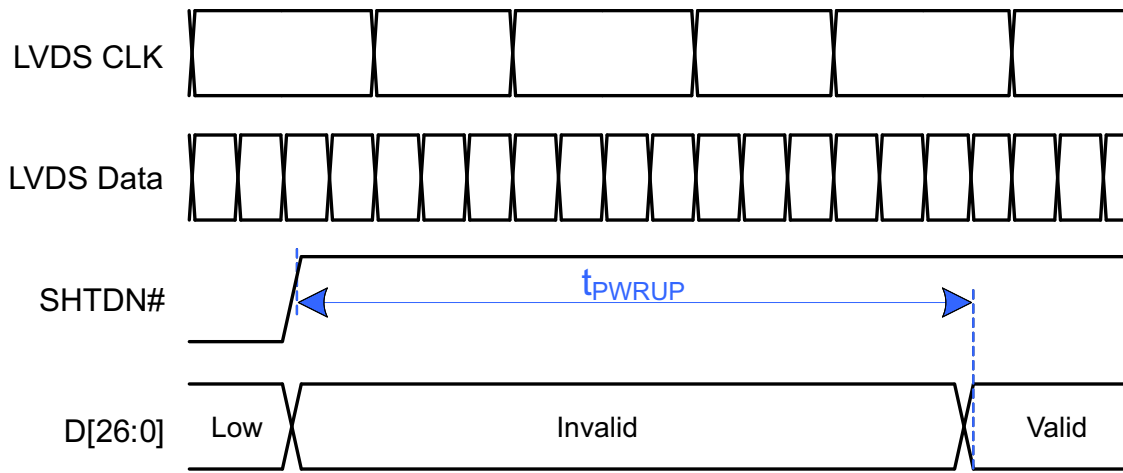
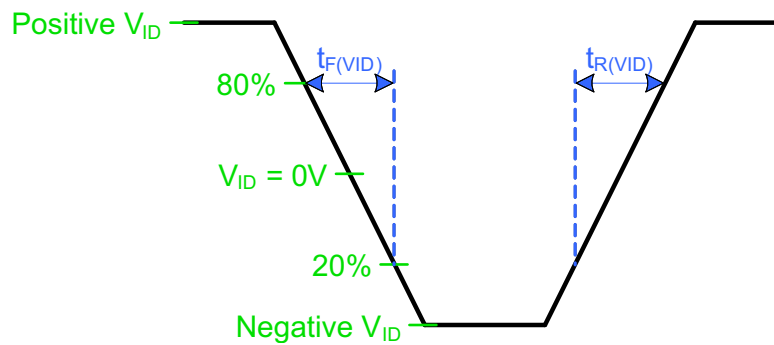

Figure 5. Time to Exit Shutdown Mode
Figure 6. LVDS Rise/Fall Time (Differential Voltage)
(1) Grayscale and 1010 test patterns are described by Figure 5 to Figure 6 and Table 1 to Table 2.
(2) Standby Mode can be entered in two ways: f_{CLK} = zero to 500 kHz, or a high V_{CM} on the LVDS clock. If the LVDS transmitter device disables its clock driver to a high-impedance state, the SN65LVDS822's integrated R_{PU} will pull V_{CM} high for the lower-power Standby state.